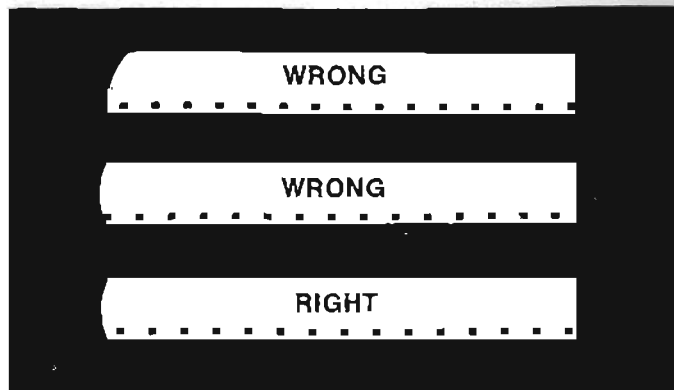
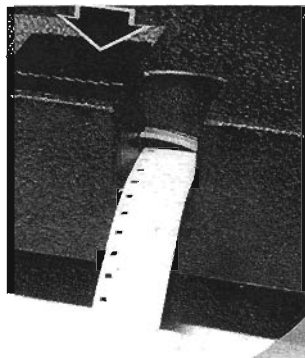

FIG. 4
FIG. 5
2. Trim end of film with trimmer on projector base (Fig. 5 and 6). Proper film trimming is essential for automatic threading (Fig. 4).